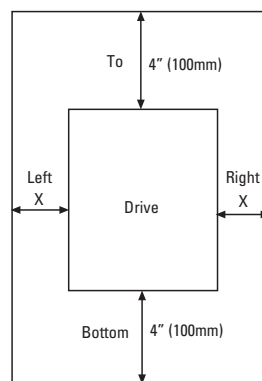

Fig. 2-2-1 30HP or less: Gap X can be 0. (side-by-side installation) 40HP or more: Gap X >= 2.0" (50mm)
- Securely fasten the drive in an upright position on a solid structure with the ACE40 tag facing the front. Do not turn the drive upside down or install it in a horizontal position. See Fig. 2-2-1
- Since heat is generated during drive operation, the spaces shown in Fig. 2-2-1 are required to ensure sufficient cooling. Do not install the drive beneath a device sensitive to heat, as heat radiates upward.